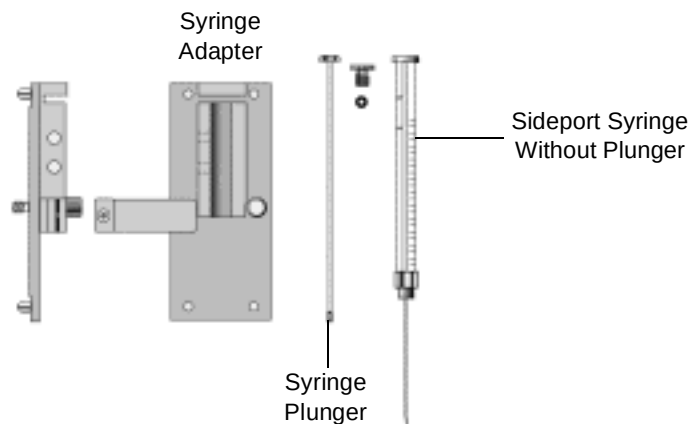

Figure 2-30 Installing the Sideport Syringe in the Adapter
1. Insert the sideport syringe without a plunger into the syringe adapter (Figure 2-30). Make sure the syringe side holes open to the left side.